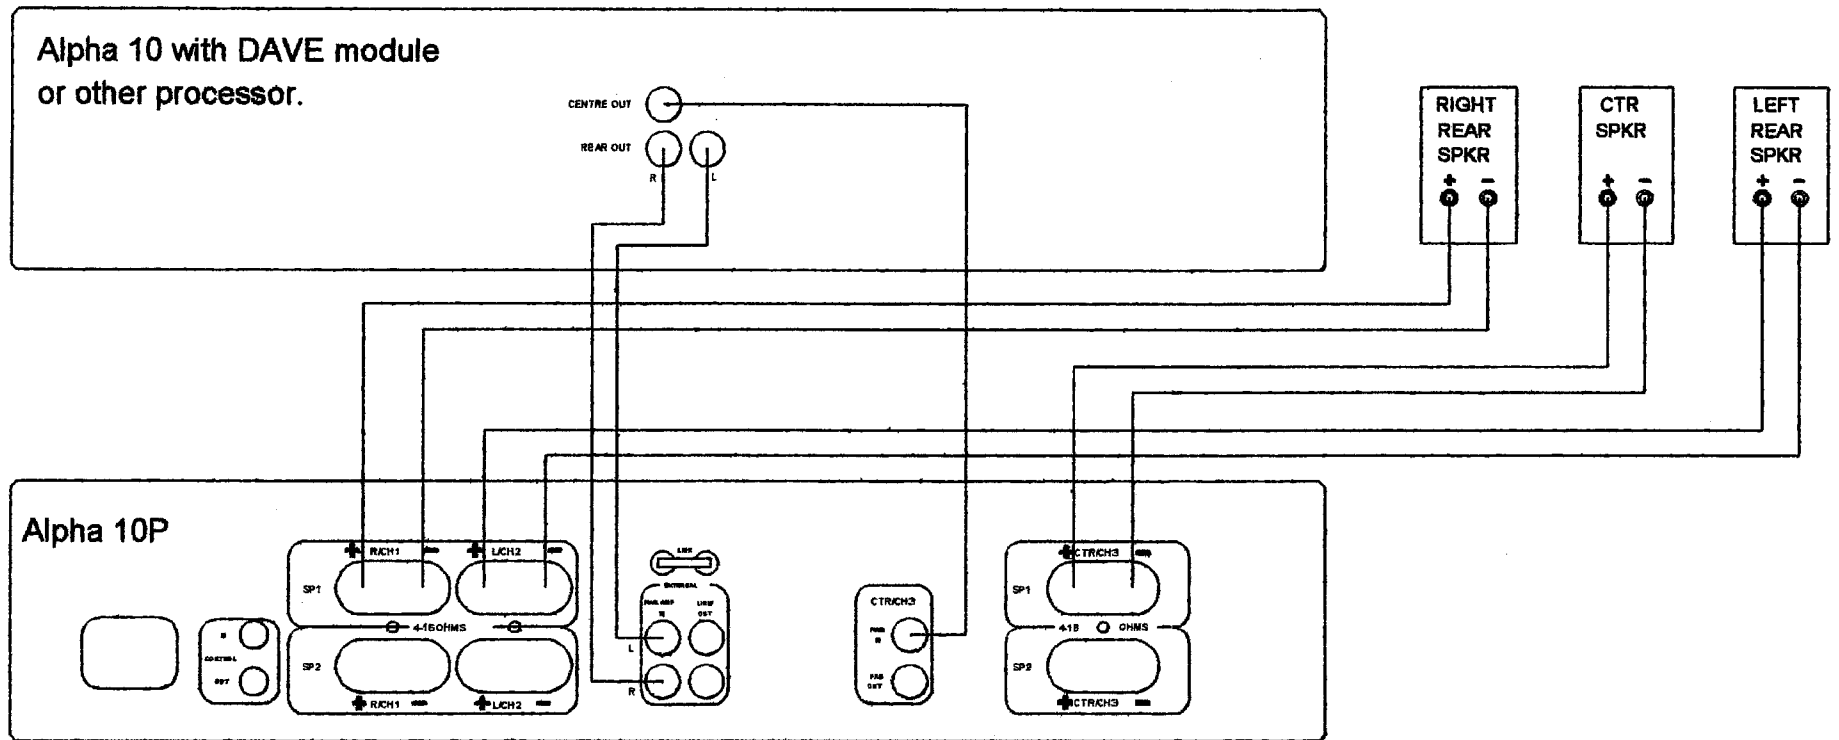

Figure 1
Connect the rear speakers to the speaker sockets ④ & ⑤ or ⑥ & ⑦ of the Alpha 10P. The centre speaker should be connected to the third channel speaker sockets ⑫ (See figure 1). You can use the SP1 set or the SP2 set or both if necessary.